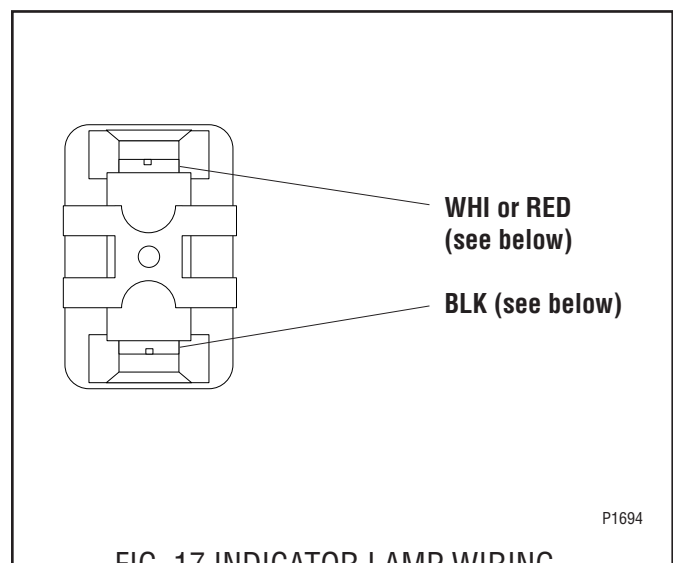

FIG. 17 INDICATOR LAMP WIRING
3. Refer to FIG. 17 when reconnecting the wires.